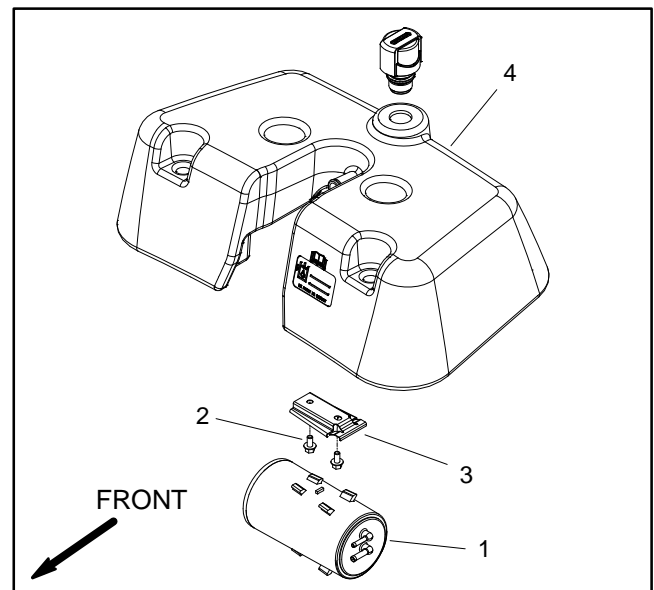

Figure 83
5. Remove four (4) cap screws (item 6), flat washers (item 7), neoprene washers (item 8) and spacers (item 9) that secure leak detector tank to hydraulic reservoir.
6. Thoroughly clean junction of overflow hose (item 4) and leak detector tank barb. Loosen hose clamp (item 3) and disconnect overflow hose from tank barb.
7. Lift leak detector tank slightly and clean junction of valve hose (item 20) at solenoid valve fitting (item 21). Loosen hose clamp (item 19) and disconnect valve hose at solenoid valve fitting.
**NOTE:** On Greensmaster 3300 machines with serial number above 312000000, the fuel system carbon canister is attached to the leak detector tank (Fig. 83). See Fuel System Carbon Canister (Serial Number Above 312000000) in the Service and Repairs section of Chapter 3 – Gasoline for information on disconnecting the canister.
9. If necessary, remove valve hose (item 20), hydraulic fitting (item 18) and breather assembly from leak detector tank. Discard all removed O-rings.
**NOTE:** If solenoid valve (item 16) removal is necessary, see Leak Detector Solenoid Valve Assembly in this section.